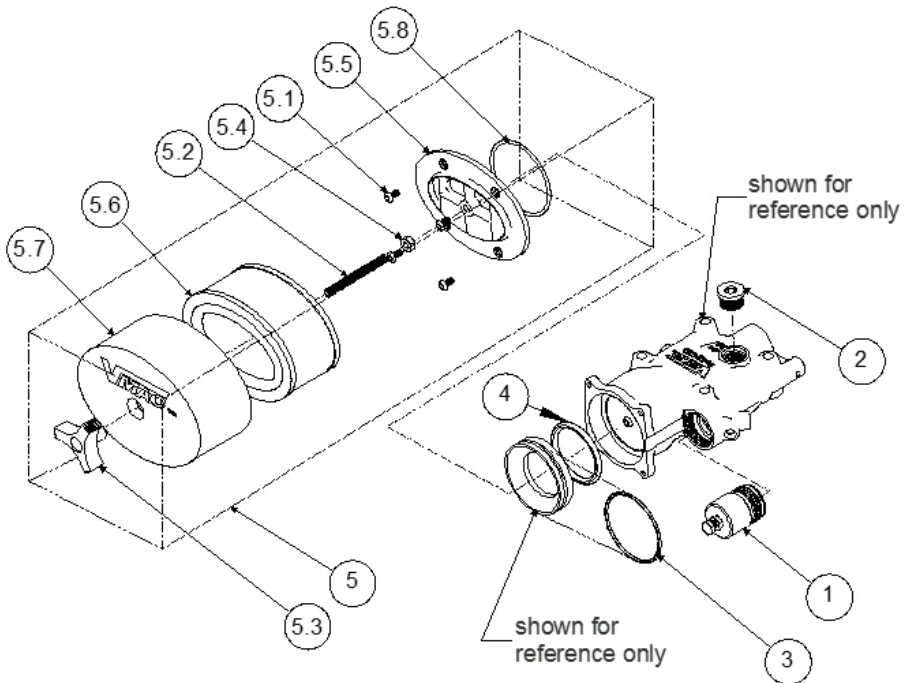

Figure 90 — Inlet Valve Sub Components
3. Inlet Valve Sub Components, 9200570 (Figure 90)